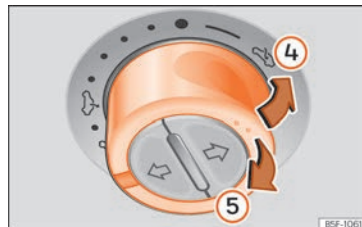

Fig. 111 On the interior roof lining: press the switch and pull on it to raise and lower the roof.
- Lift: Push the switch to position » Fig. 111 ④. For an intermediate position, hold down the switch until you reach the desired position.
- Lower: pull the switch to position » Fig. 111 ⑤. For an intermediate position, hold down the switch until you reach the desired position.
- *Glass roof*: within approx. 5 seconds of the activation of the anti-trap function, keep the control pulled backwards »» Fig. 111 (arrow ⑤) until the roof is completely closed.